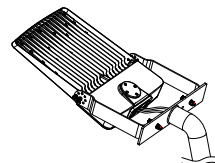

Figure 5-3
Step3: Fix the fixture to the FM bracket with screws, Figure 5-3;